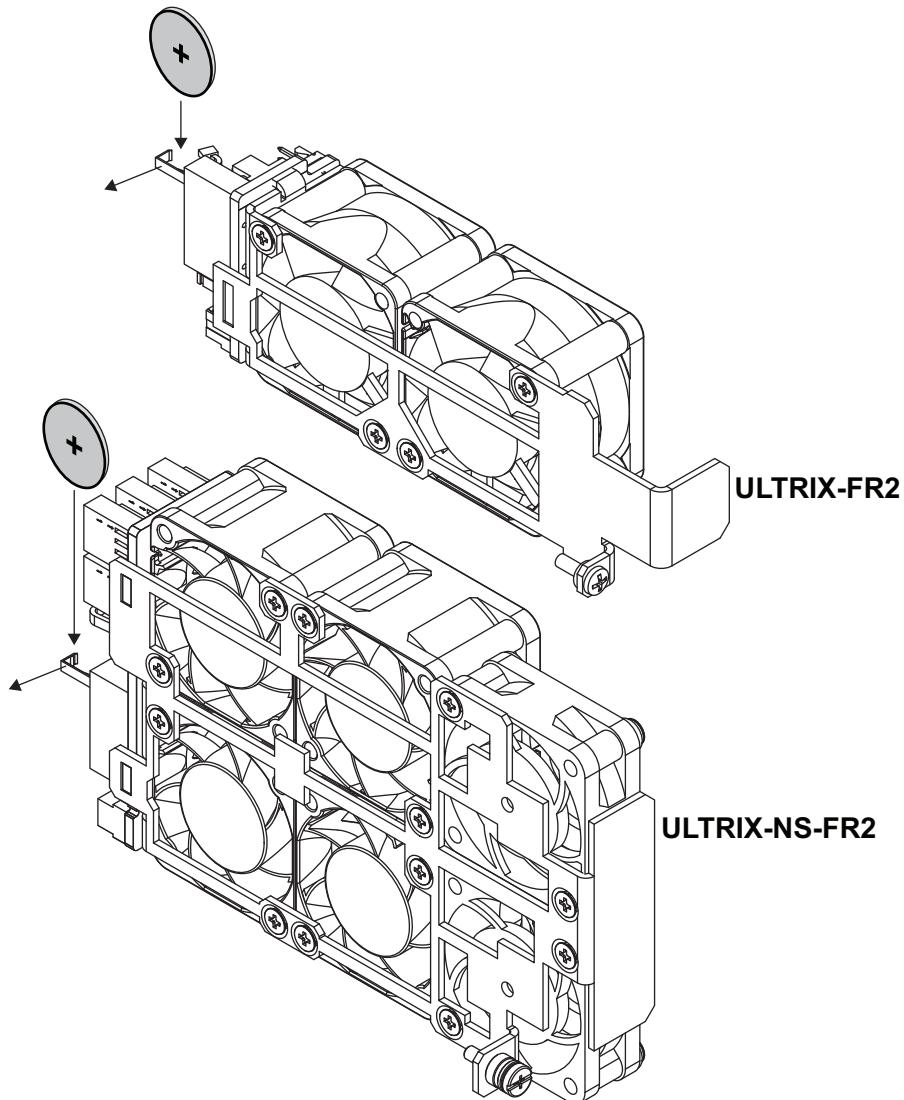

Figure 87 New Battery Orientation —ULTRIX-FR2 and ULTRIX-NS-FR2
1. Hold the battery in one hand and orient it so that the Positive side (+) faces away from you. **(Figure 87)**